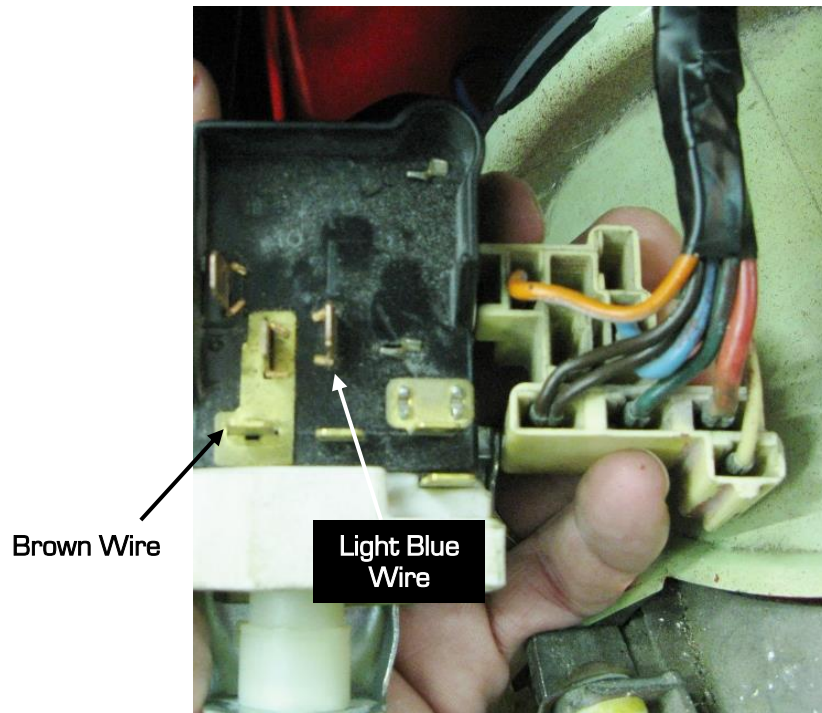
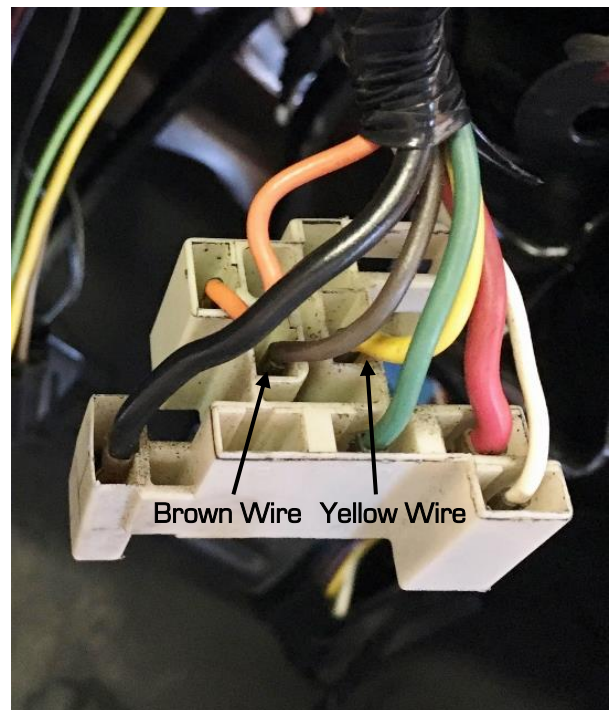

Figure 31 – Early C3 Stock Headlight Switch
Figure 33 – Late C3 Stock Headlight Switch
30. For the early & mid C3 applications, locate the light blue and brown wires and remove the terminals from the connector using a terminal removal tool or a small flat blade screwdriver (Figure 31 & 32). For the later C3 applications, the yellow wire and the brown wire terminals will need to be removed (Figure 33). **NOTE:** The brown wire is also in a different location between the early and mid to late C3 vehicles.